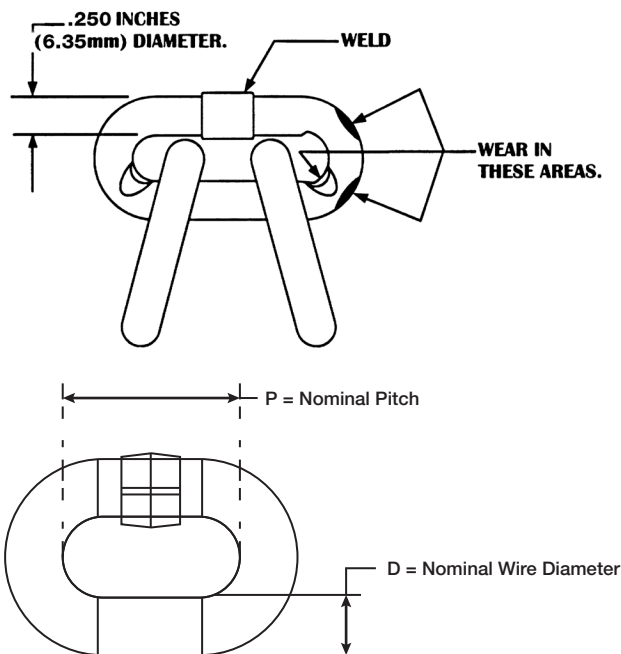

Figure 10. Chain Wear Areas
3. Slack the portion of the chain that normally passes over the liftwheel (sprocket) or idler sprocket on multi-reeved hoist. Examine the chain links for wear ( see figure 10). If the wire diameter anywhere on the link measures less than 90% of the nominal wire diameter, the chain must be replaced.